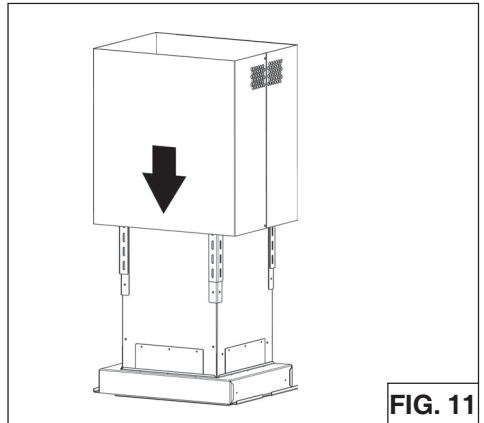

FIG. 11
1. Insert the **upper flue** in the support frame (Fig.11).